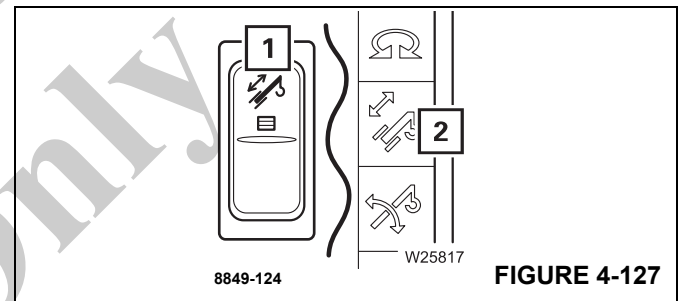

FIGURE 4-127
- Press the button on the right hand armrest (1), (Figure 4-127) once.
- The lamp in button (1), (Figure 4-127) will light up brightly.
- The symbol (2), (Figure 4-127) will be green if the telescoping mechanism is switched ON.